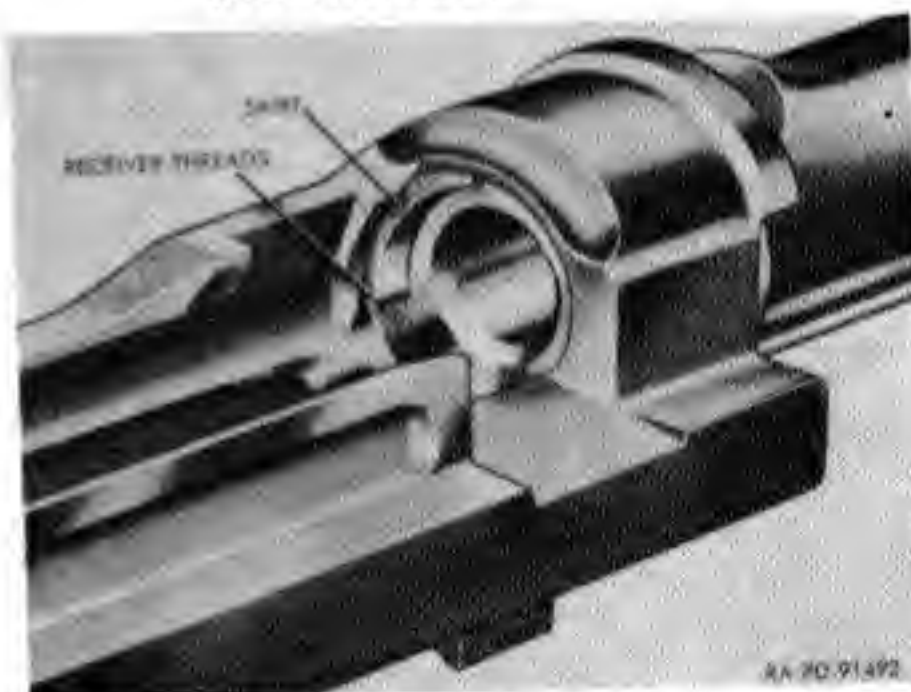

Figure 80. Breech and barrel showing new type skirt.
- (h) Barrels of current manufacture have been modified by the elimination of a portion of the skirt on the chamber end. In barrels of early manufacture, this skirt was extended around approximately two-thirds of the chamber end of the barrel and was thickened somewhat in its center section. As the thin section of the skirt served no useful purpose, it was eliminated and only the thickened portion remained. When looking into the breech end of the gun only the thickened portion remained. When looking into the breech end of the gun ahead of the bullet ramp, the thread of the receiver can be seen (Fig. 80). This is a normal condition.